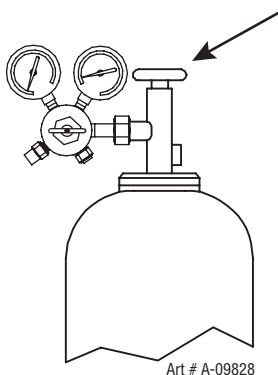

Figure 3-9: Open Cylinder Valve
5. Carefully inspect the regulator for damaged threads, dirt, dust, grease, oil, or other flammable substances. Remove dust and dirt with a clean cloth. Be sure the inlet swivel filter is clean and in place. Attach the regulator (Figure 3-9) to the cylinder valve. Tighten securely with a wrench.
8. Slowly and carefully open the cylinder valve (Figure 3-9) until the maximum pressure shows on the high pressure gauge.